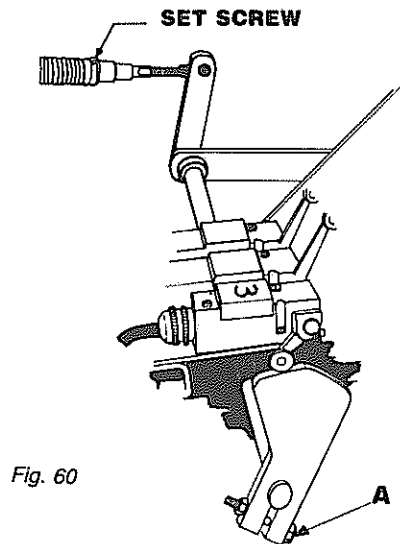

Fig. 60
- (1) Loosen set screw in locking collar, see Fig. 60.
- (2) Slide locking collar on Feed sensor guide rod forward to compress spring 1 inch when the sensor paddle is against the rubber bumper.